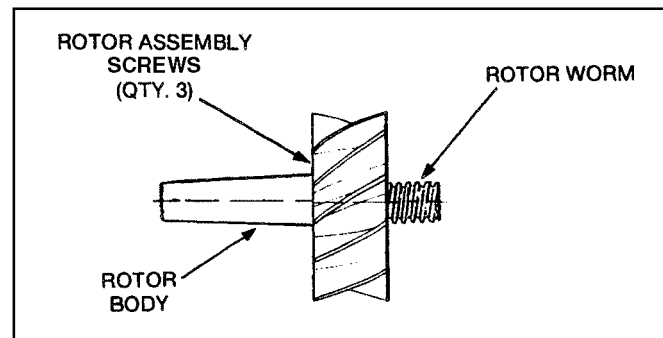

Figure 6. Rotor Assembly (6" - 8" Turbo Meters)
Check the rotor worm and blades for signs of damage and wear. Also inspect the bearing bushings on the rotor body and worm gear. If replacement is required due to damage or wear, the rotor assembly can be disassembled by removal of the three (3) screws and nuts on sizes 6" - 8" (see Figure 6.) Reinsert these after replacement of needed parts. For the 2" - 4" meters, the entire meter can be replaced.